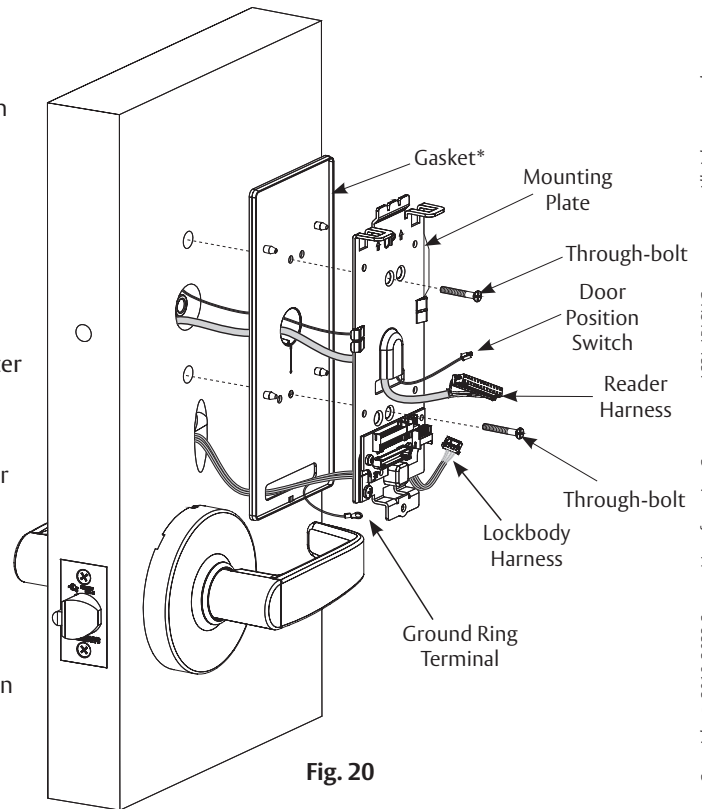

Fig. 20
- d. Feed reader harness and DPS connectors through inside mounting assembly and gasket if required*. (Fig. 20)
IMPORTANT: Do not run wires through bottom flange hole in plate - it will damage wires and controller connector. Route wires around flange. (Fig. 20)
- f. Begin to secure mounting assembly by partially tightening two (2) through-bolts on inside of door while ensuring proper alignment as reader is secured. (Fig. 20)
- If installing with gasket, separate gasket from mounting plate to feed cables/connectors through holes as indicated. (Fig. 20)